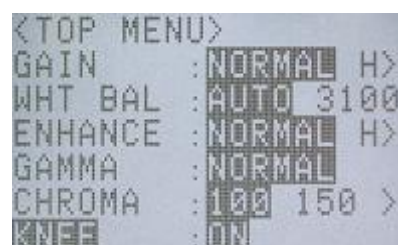

Figure 3-62 KNEE(TOP MENU)
- 2) Use the arrows   to select "KNEE" from the TOP MENU. (Figure 3-62)